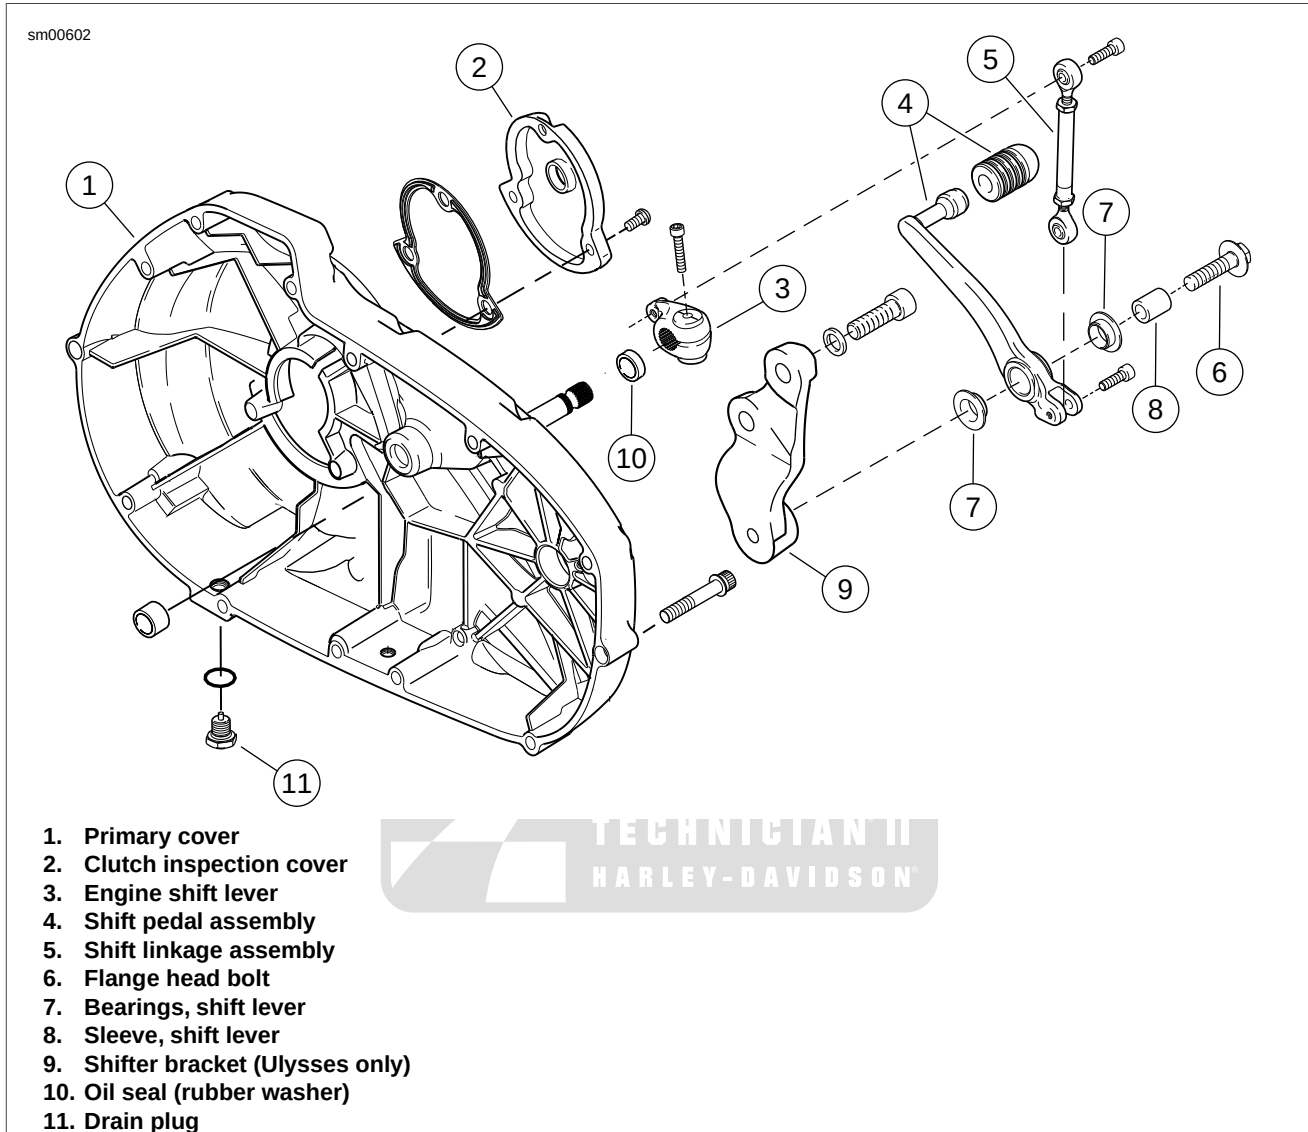
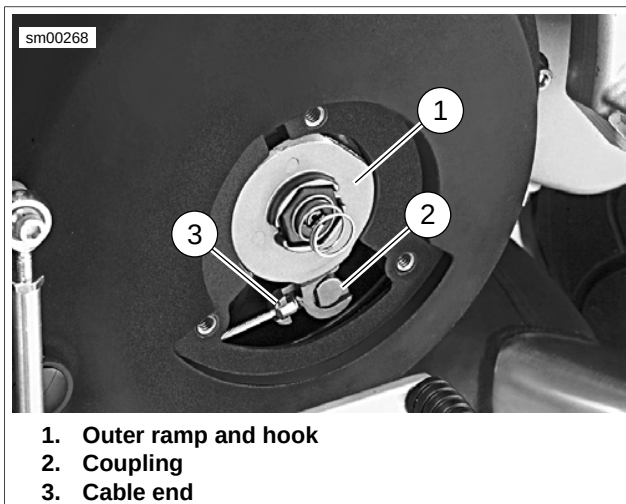
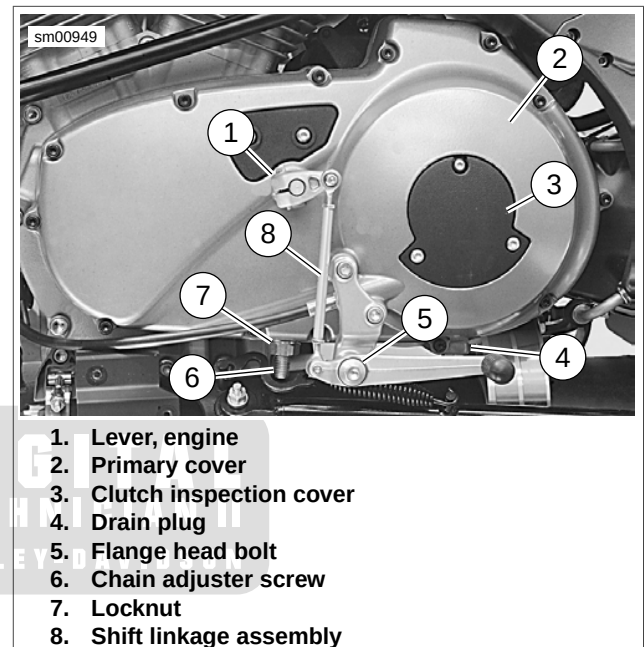

Figure 2-134. Shifter Linkage
Figure 2-135. Clutch Release Mechanism (Typical)
Figure 2-137. Installing Shift Linkage (Typical)
11. See Figure 2-134. Remove clutch inspection cover (2).
- a. Remove flange bolt (6) from primary cover.
- b. Remove engine shift lever assembly (3). Do not scratch primary cover.
13. See Figure 2-135. Remove the outer ramp and hook (1) from the cable end (3) and coupling (2). Remove cable
3. See Figure 2-135. Install cable end into slot in coupling. Install the outer ramp and hook (1) onto the cable end (3) and coupling (2) and place assembly back into the clutch inspection area in the primary cover. See 6.3 CLUTCH RELEASE MECHANISM.
4. See Figure 2-134. Install oil seal (rubber washer) and engine shift lever assembly (10, 3).
5. See Figure 2-134. Install (7) bearings and (8) sleeve into the shift lever.
6. After applying LOCTITE 271 (red), install flange bolt (6) and shift pedal (4) to primary cover, and tighten to 22-24 ft-lbs (30-32.5 Nm).
8. See Figure 2-137. If the shift linkage assembly (8) was removed for any reason, apply LOCTITE 271 to fasteners and tighten to 36-60 **in-lbs** (4-6.8 Nm). Adjust to rider comfort.
14. See Figure 2-134. Install clutch inspection cover (2) with three TORX screws with washers. Tighten screws in a crosswise pattern to 84-108 **in-lbs** (9.5-12.2 Nm).